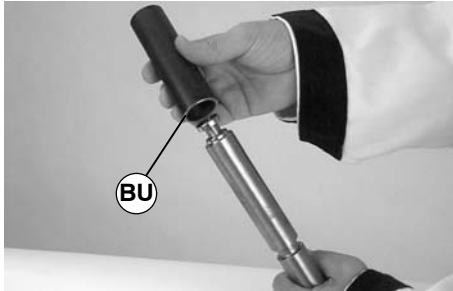

Figure 38
- Slide sleeve (BU of Figure 38) of tool (part # 456085) over bearing.